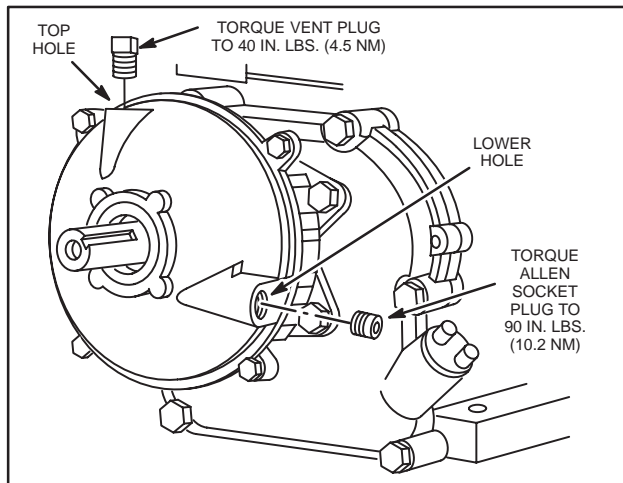

Fig. 136 – FILLING GEAR CASE
5. Install vent plug with hole in top hole and torque to 40 in. lbs. (4.5 Nm), Fig. 136.